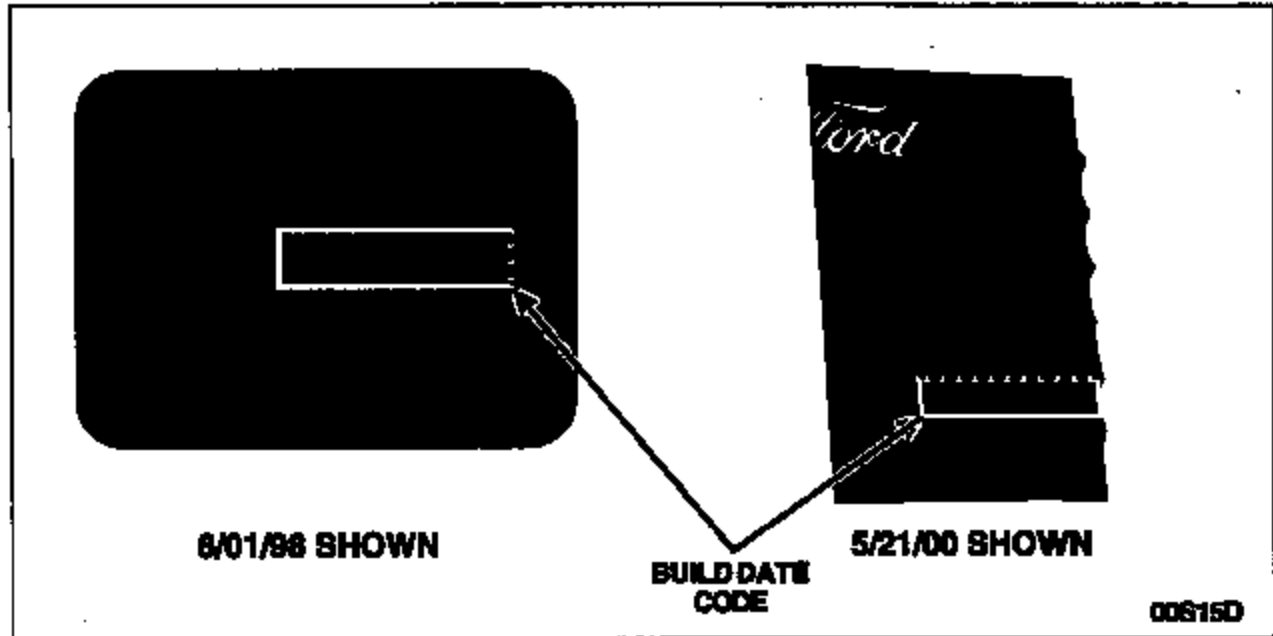

FIGURE 4
1. Locate the build date code on the build label. Use the examples in Figure 4 and the Build Date Code Translator chart to determine the build date.